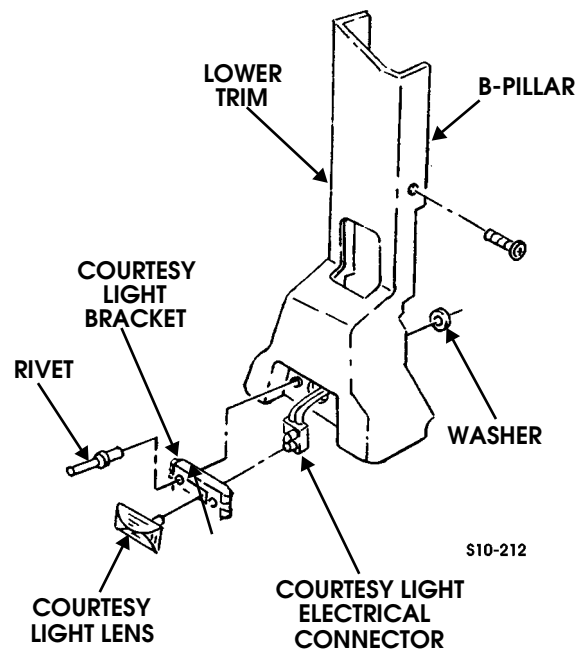

Figure 10-130: Courtesy Light Electrical Connector
7. Remove four screw and washer assemblies and lower B-pillar trim from B-pillar (Figure 10-130).
4. Connect courtesy light electrical connector, and secure courtesy light to trim with two washers and rivets (Figure 10-130).